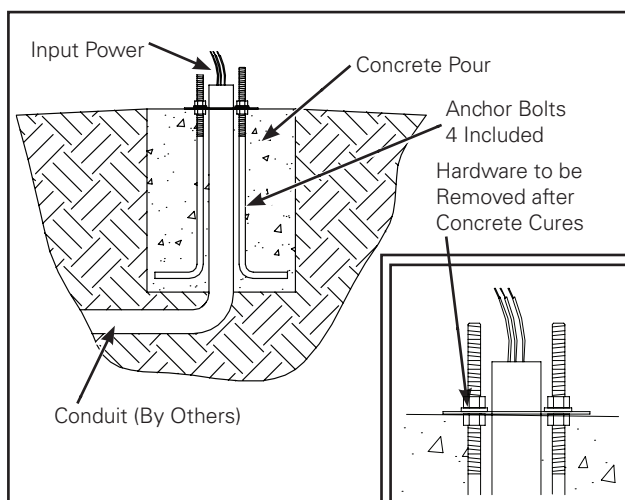

Figure 2.
1. Disconnect or turn power off prior to performing all installation and maintenance activities. Trench deep enough to accept anchor bolts and place conduit as required by the national electric code and any other applicable rules, regulations and requirements. Adjust nuts on anchor bolts so there is 1-1/4" thread length above the pad plate to accept the fixture base and neoprene pad. Place anchor bolt assembly over conduit and secure for concrete pour. Make sure that the aluminum template is flush with the concrete surface and that the assembly will not be dislodged during concrete pour operations (See Bolt Pattern Page) Pour concrete. Make sure that plate is as level as possible. Allow concrete to cure. (Figure 2.)